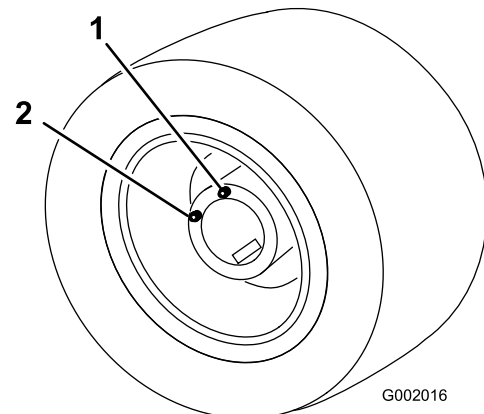

Figure 82
5. Move the vehicle slowly until the wheel is positioned for filling (Figure 82).